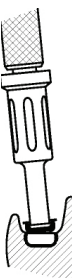

Fig. 6
8. Use the Locator Male Removal Tool (attached to the Locator Core Tool, Zest order No. 8393) to remove the Black Processing Male from the metal denture cap. The sharp circular edge on the end of the removal tool should be wedged tightly down into the very bottom of the male so that it will catch the inside of the male to pull it at an angle out of the metal housing. (Fig. 6) To discard the male from the tip on the Core Tool, point the tool down and away from you and tighten the Male Removal Tool clockwise back onto the Core Tool. This will activate the removal pin and dislodge the nylon male from the tip end of the Male Removal Tool.